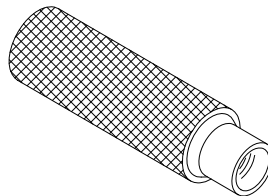

Fig. 3
2. In the case of four-electrode spark plugs, a special spark gap setting tool as shown in figure 3 ref. 19.75.016 is used.